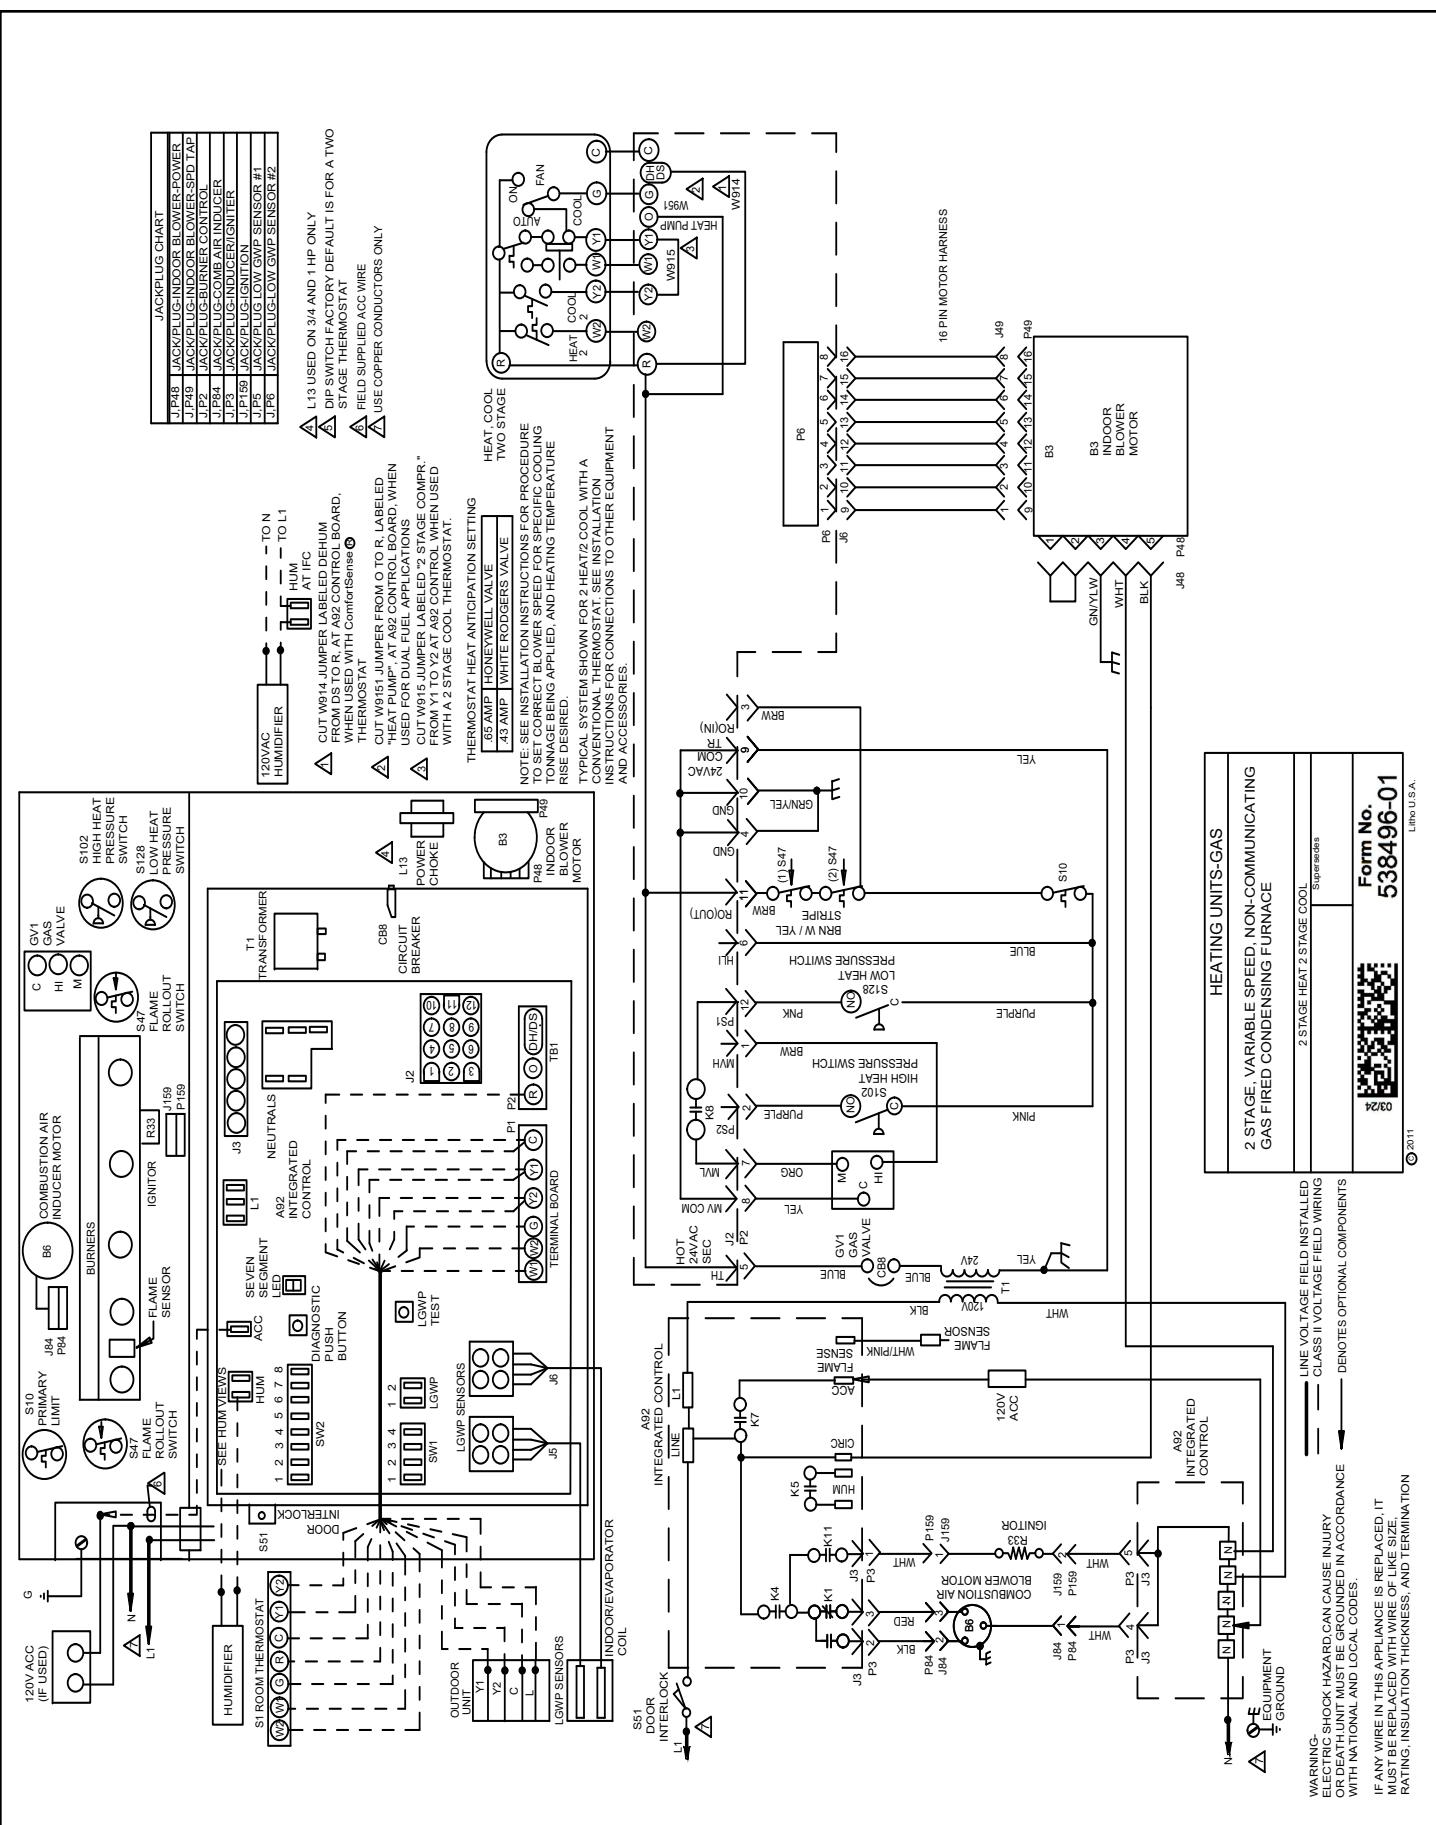
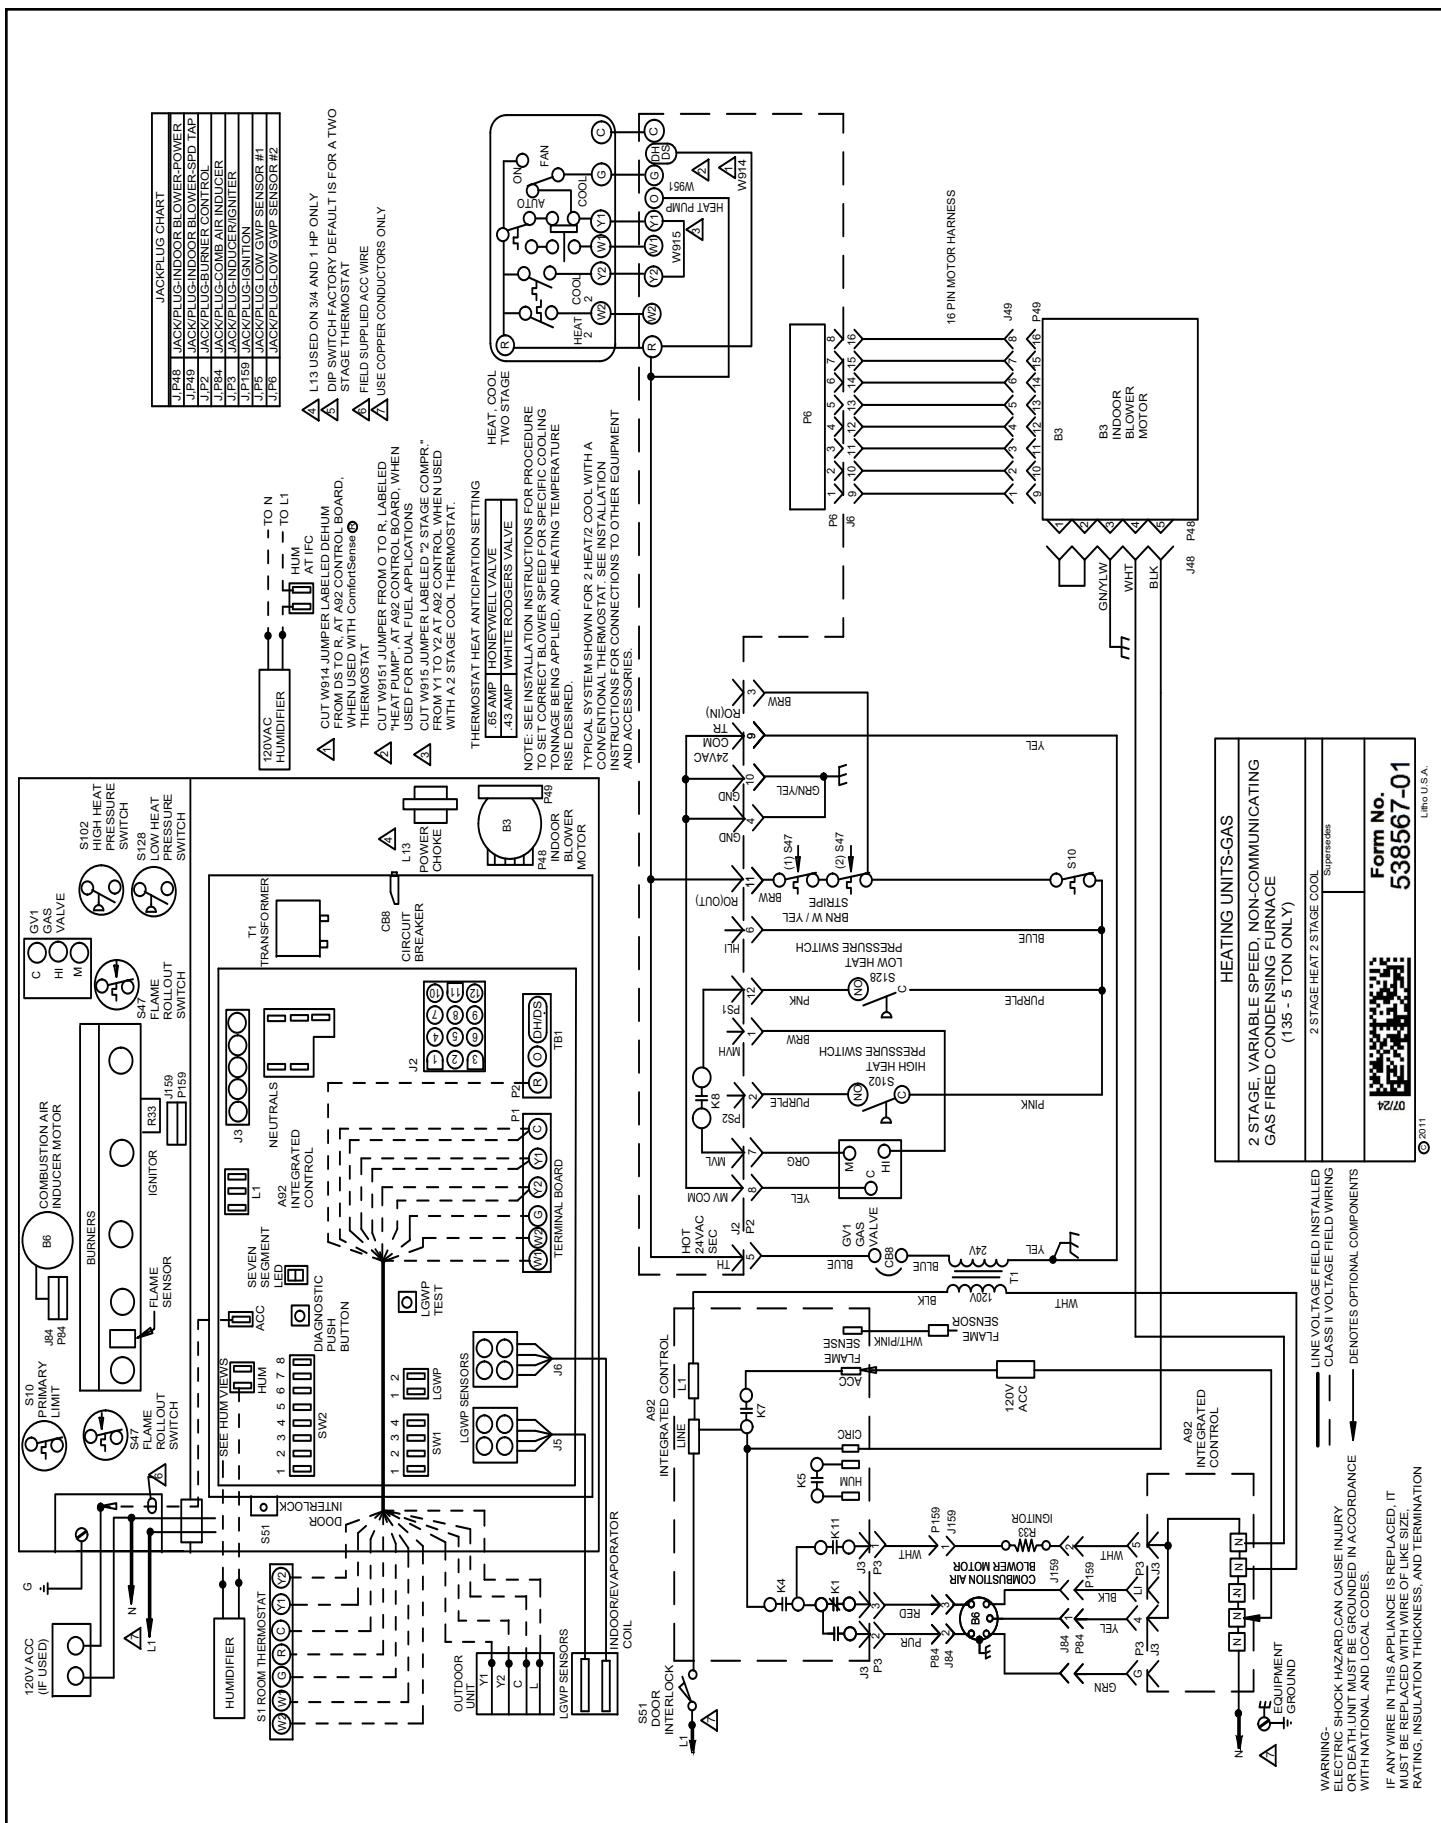

Figure 70. Typical Field Wiring Diagram (045 - 110)
Figure 71. Typical Field Wiring Diagram (135)
Refer to Figure 70 and Figure 71 for field wiring.
5. Complete the wiring connections to the equipment. Use the provided field wiring diagram shown in Figure 70 and Figure 71. Use 18 gauge wire or larger that is suitable for Class II rating for thermostat connections.